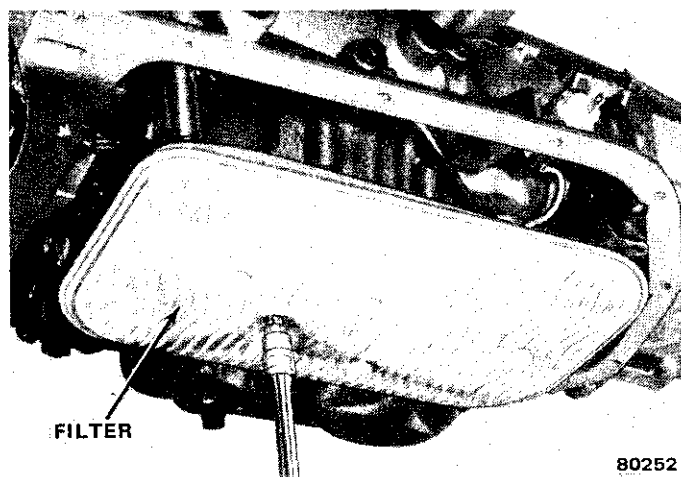

Fig. B-18 Removing Automatic Transmission Filter
- (1) Remove transmission pan screws, pan, and gasket.
- (2) Remove and discard oil filter (fig. B-18).
- (3) Remove and discard O-ring seal from pick-up pipe.
- (4) Install new O-ring seal on pick-up pipe and install strainer and pipe assembly.
- (5) Clean pan thoroughly and position new gasket on pan. Use petroleum jelly, or equivalent, to position gasket.
- (6) Install pan. Secure with attaching screws and tighten to 10 to 13 foot-pounds (14 to 18 N•m) torque .
- (7) Pour approximately 5 quarts (4.71 liters) of Dex-